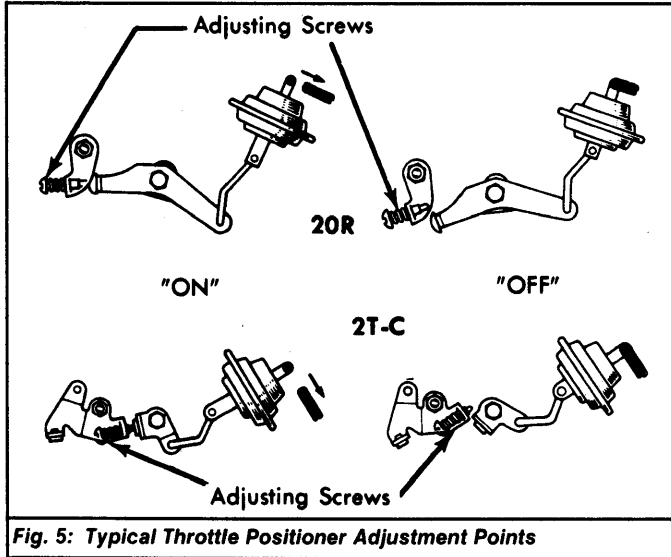

Fig. 5: Typical Throttle Positioner Adjustment Points
2) Engine should idle at specified throttle positioner speed. If not, turn throttle positioner adjusting screw. See Fig. 5. Reconnect throttle positioner diaphragm vacuum hose and thermo sensor.